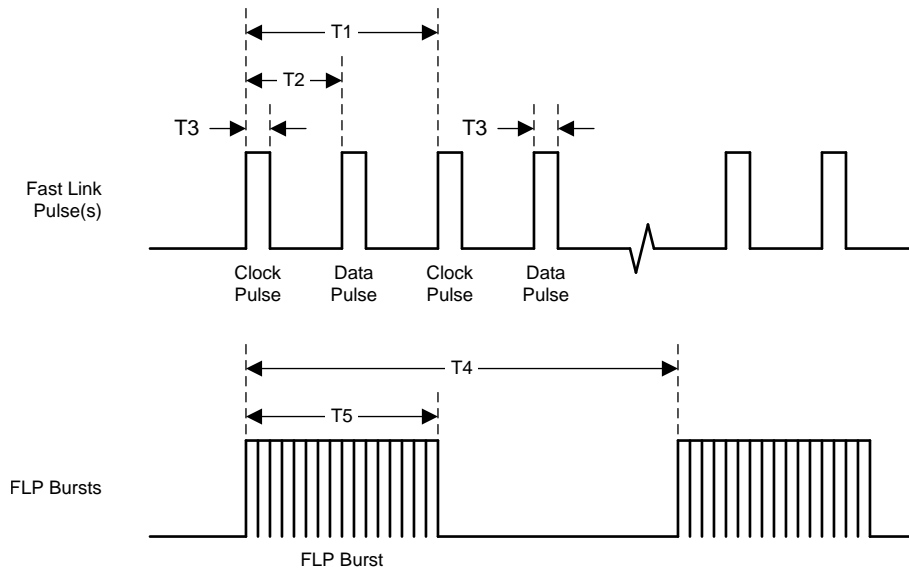

图 13. Fast Link Pulse Timing
(1) Ensured by production test, characterization or design.
(2) See 图 13.